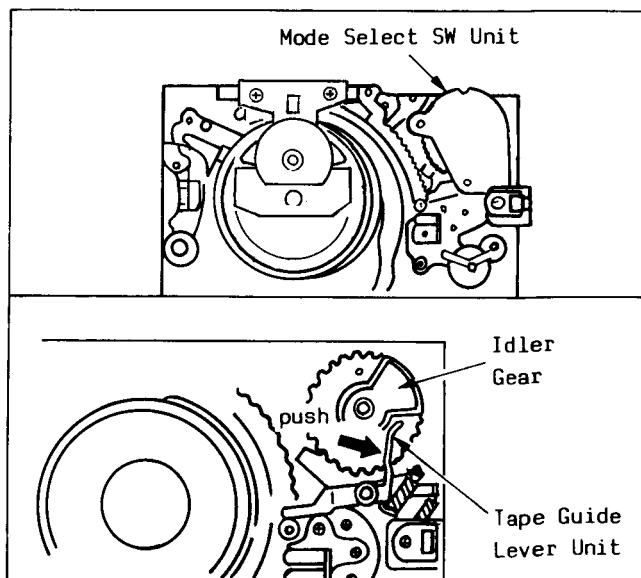

Fig. M9
- (3) Remove the Cassette Up Holder, LP Head Amp, Head Amp Holder and Mode Select Switch Unit.
- (4) Take out the Idler Gear while pushing on the Tape Guide Lever Unit until it clears the Idler Gear Teeth as shown in Fig. M9.